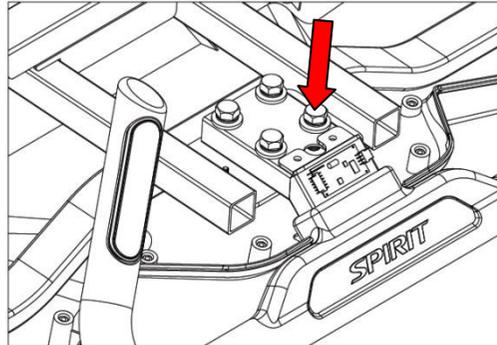

Figure 4.9.3
- 8) As shown in Figure 4.9.3, use a wrench to remove the four hexagonal screws. Replace the handheld group accordingly.**